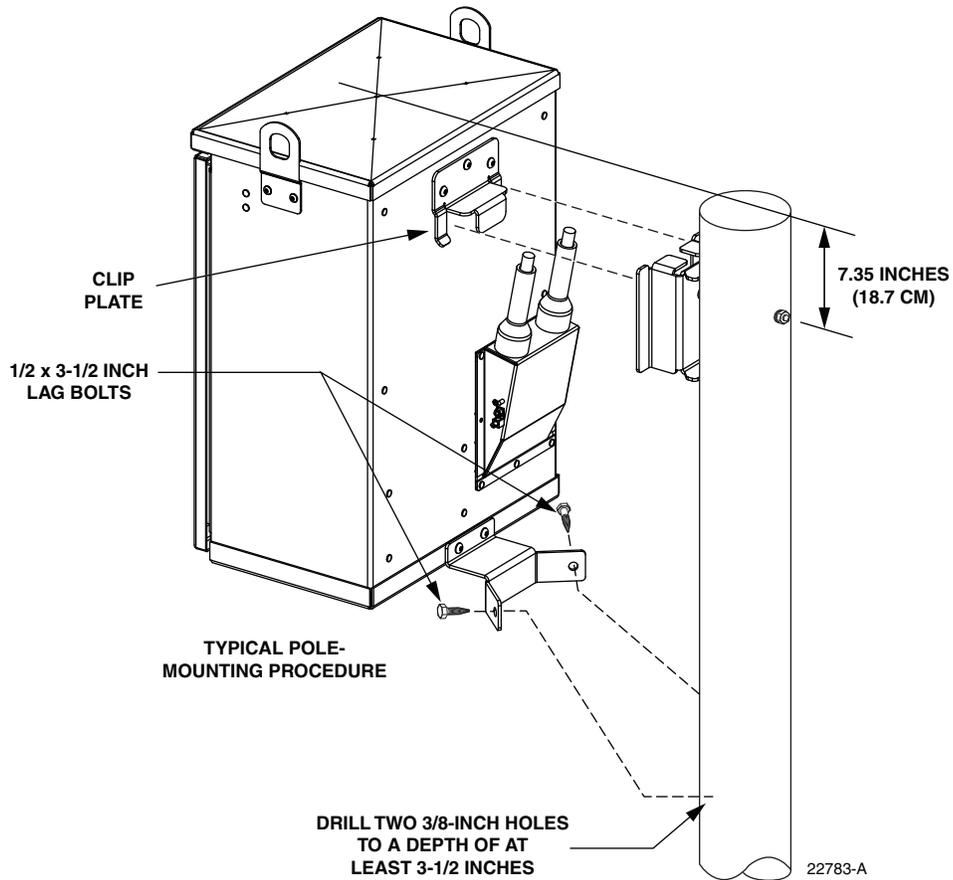

Figure 6. Mounting Cabinet on Pole
8. Hang the cabinet from the installed top bracket as shown in Figure 6. The clip plate on the back of the cabinet slips over the installed top bracket.
10. Using the bottom bracket as a template, drill two 3/8-inch holes into the pole to a depth of at least 3-1/2 inches (see Figure 6).